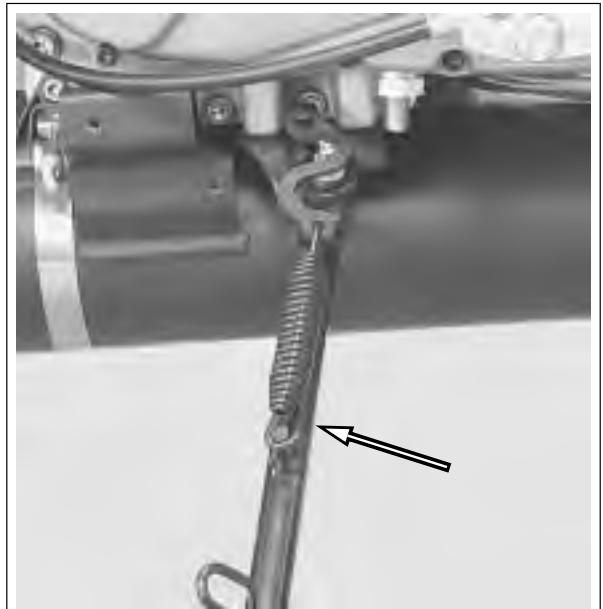

**Figure 3-19. Removing Convolute Cover From Oil Line**
- a. See Figure 3-19. Remove convolute covering from return oil line.